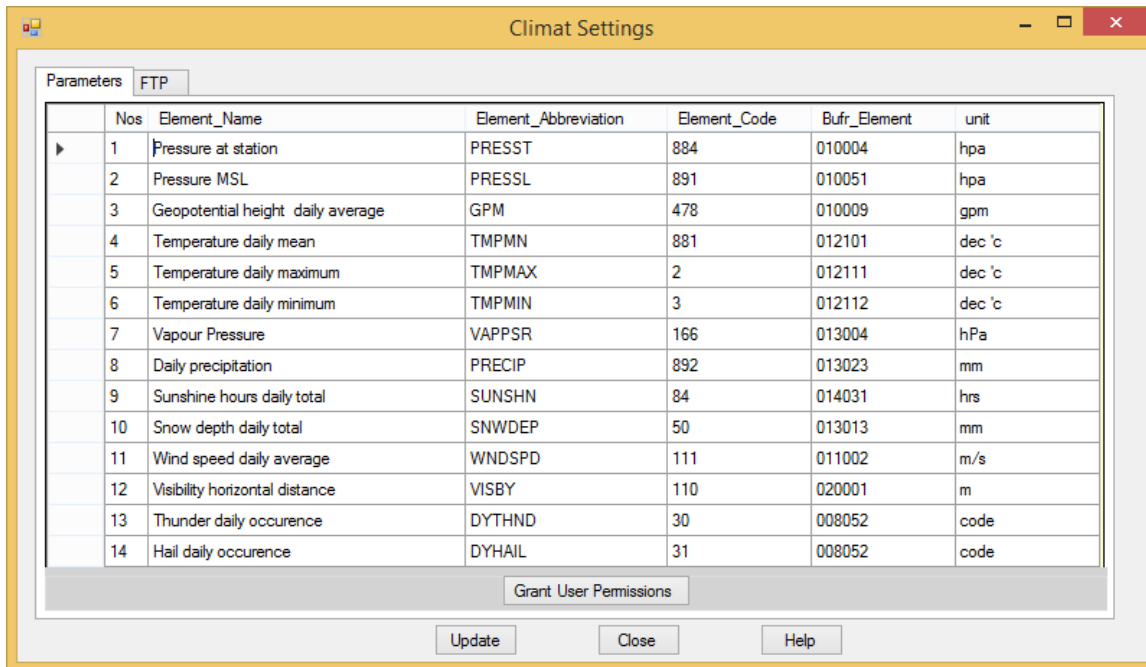

Figure 88c: CLIMAT message Parameters (elements) settings
- (vii) **CLIMAT message encoding settings** – The Settings button opens the Settings dialog as shown in **Figure 88c**. The dialog has two tabs; **Parameter** and **FTP** for setting the element codes for data used in CLIMAT encoding and details of the server where the message will be sent respectively. The dialogs for these settings are easy to follow